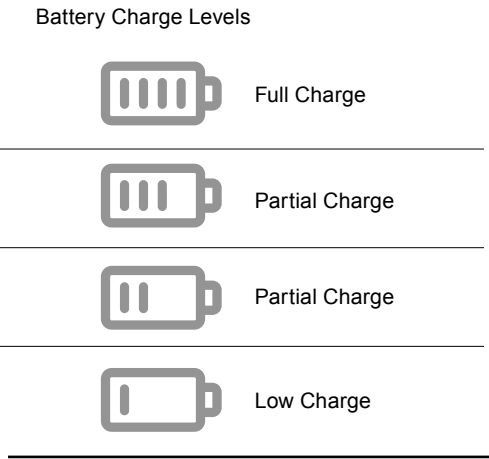

Figure 6 – Battery Status Symbols
4. You will see the charging symbol (white lightning bolt) and battery status symbol flashing in the corner of the screen. This lightning bolt charging symbol tells you EXOGEN is charging. Charge EXOGEN until a fully-charged battery is shown by the battery status. (**Figure 6**)
As you use EXOGEN, the symbol will change to show the reduced battery level. See **Figure 6**.